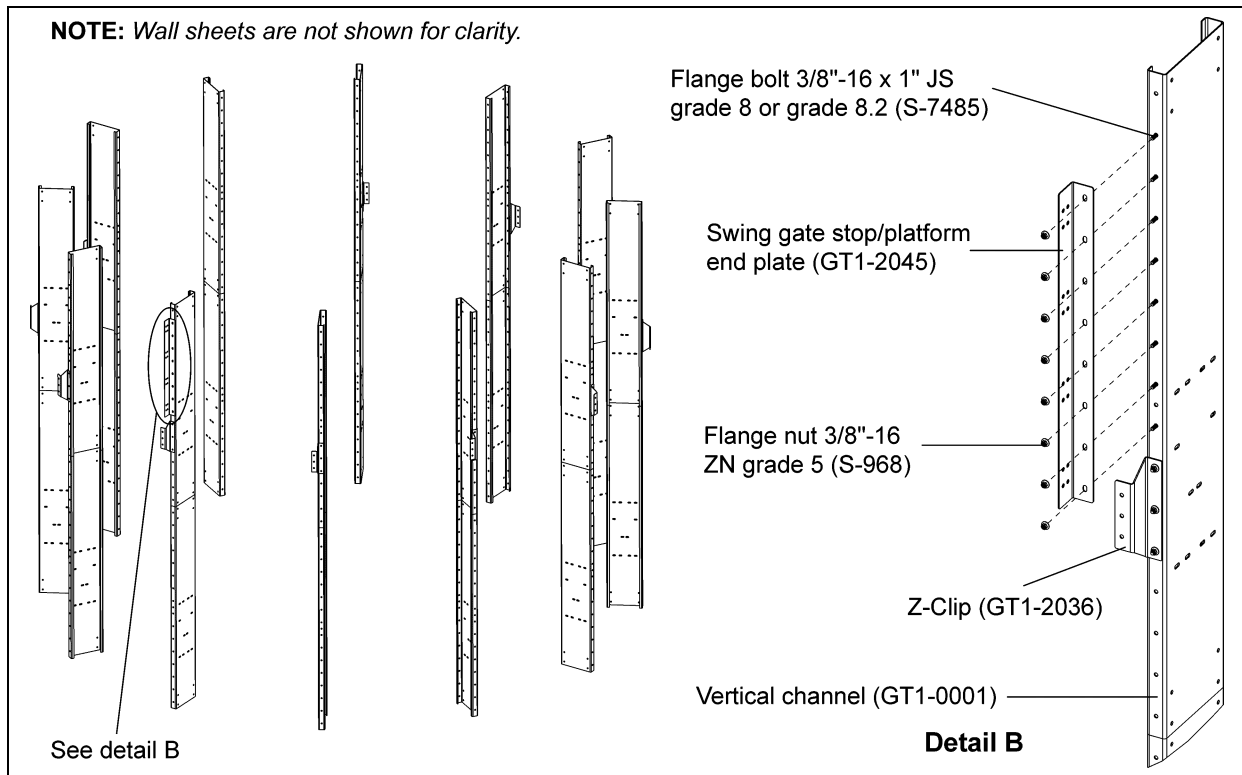
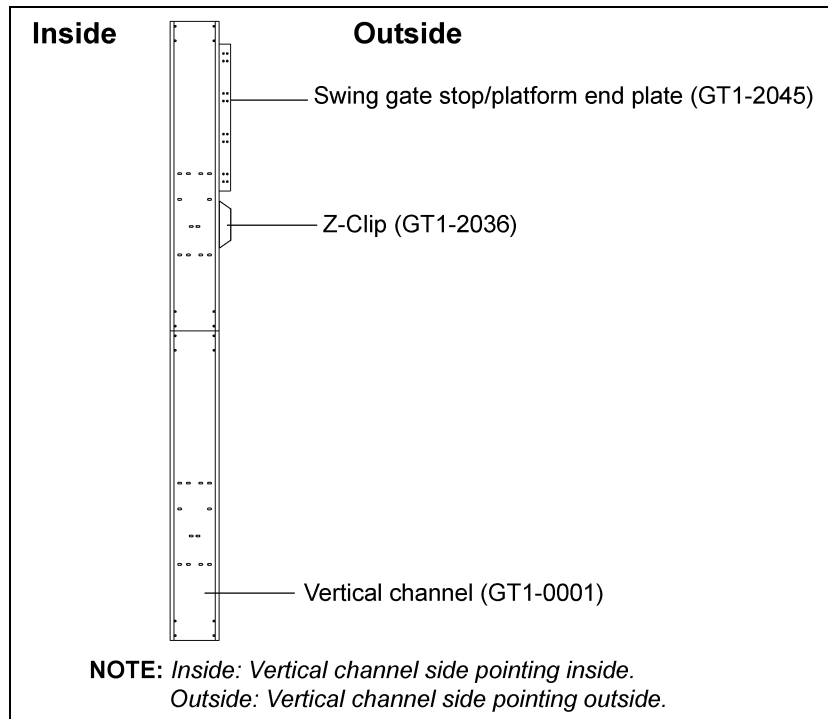

Figure 4C
Figure 4D
1. Identify the ladder opening vertical channel and install the swing gate stop (GT1-2045) to the vertical channel (GT1-0001) as wall sheets are installed using 3/8"-16 x 1" JS grade 8 or grade 8.2 bolts (S-7485) and 3/8"-16 ZN grade 5 nuts (S-968). (See Figure 4C and Figure 4D.)